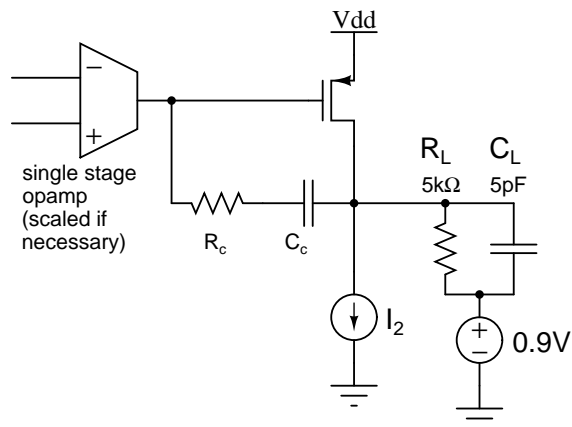

Figure 2: Two stage opamp
1. **Two stage opamp:** Design a two stage single ended opamp (Fig. 2) that has a dc gain of at least 500, and a
unity gain frequency of 100 MHz with a load of 5 pF and 5 k Ω in parallel. Design the second stage common source amplifier to have a sufficiently high dc gain while driving the desired load resistance and a sufficiently high second pole while driving the desired load capacitance. Use a scaled version¹ of your single stage opamp design from above for the input stage. Use a suitable compensation capacitor (Fig. 2). All parasitic poles and zeros should be at at least twice the unity gain frequency. Ensure that there is no systematic offset because of the second stage bias. Add a zero canceling resistor.